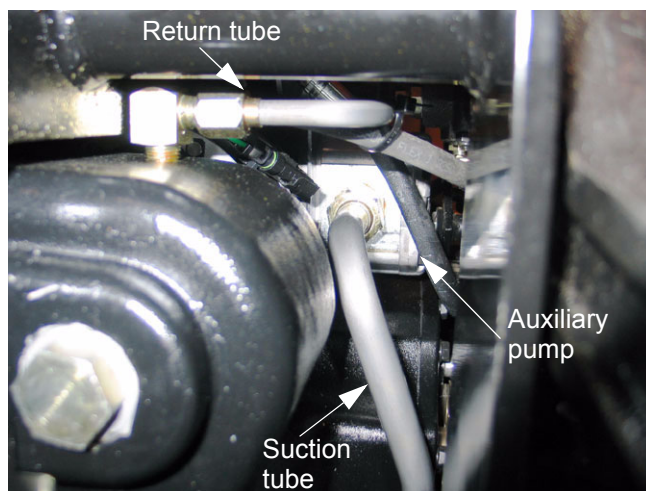

Figure 1.5
- 1.5. The hydrostatic drive is a Hydrogear model BDU-21L-400. It relies on the auxiliary pump to produce charge pressure. The auxiliary pump draws hydraulic fluid up the suction pipe from the base of the transmission housing. See Figure 1.5.